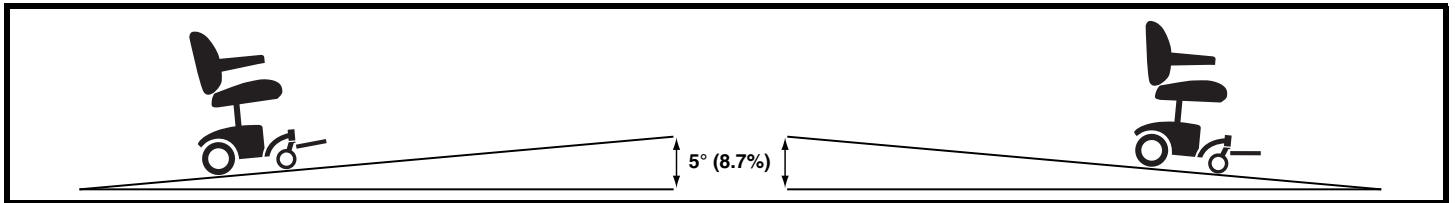

Figure 1. Maximum Recommended Safe Slope (Ascending and Descending)
**WARNING!** Even though your power chair is capable of climbing slopes greater than those illustrated in figure 1, do not, under any circumstances, exceed the incline guidelines or any other specifications presented in this manual. Doing so could cause instability in your power chair.
Pride recommends that the maximum slope of an incline you attempt to safely ascend or descend on your power chair does not exceed 5° (8.7%). See figure 1.